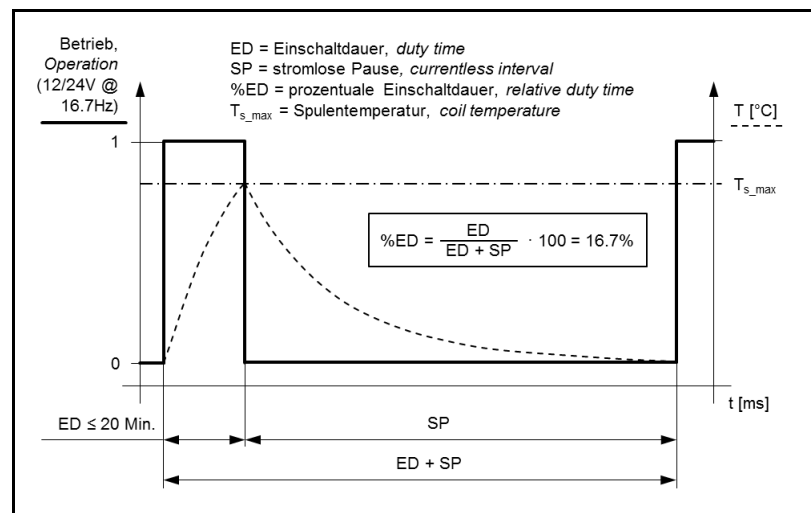

Fig. 8: Duty time in short-time operation
In order to prevent the permissible coil temperature ( $T_{s\_max}$ ) from being exceeded, the pump must not be operated for more than 20 minutes at 16.7 Hz. This must be followed by a currentless interval (SP) lasting 100 minutes. If operated for a shorter time at 16.7 Hz, the currentless interval is reduced proportionately. For short-time operation at 16.7 Hz, this results in a %ED of no more than 16.7 % (see Fig. 8: Duty time in short-time operation, page 16).